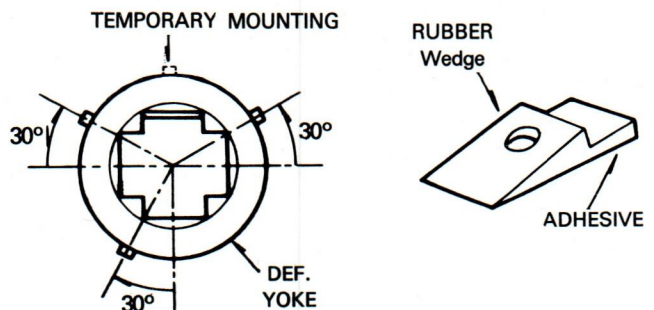

Fig2 RUBBER WEDGES LOCATION
Convergence magnet assembly and rubber wedges need mechanical positioning following the figure 2.
9. Stick 3 adhesive tapes on wedges as shown in figure 2